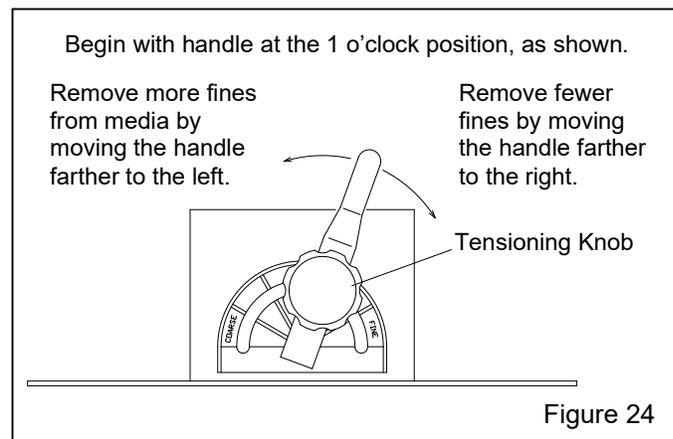

Figure 24
**5.4.1** The vortex cylinder is located atop the reclaimer where the flex hose connects. Adjustments are made by loosening the handle's tensioning knob and moving the handle to achieve the correct setting. When the correct setting is established, tighten the locking knob to prevent movement. Start with the lever slightly to the right (about 1 o'clock, as shown in Figure 24) of the vertical position.